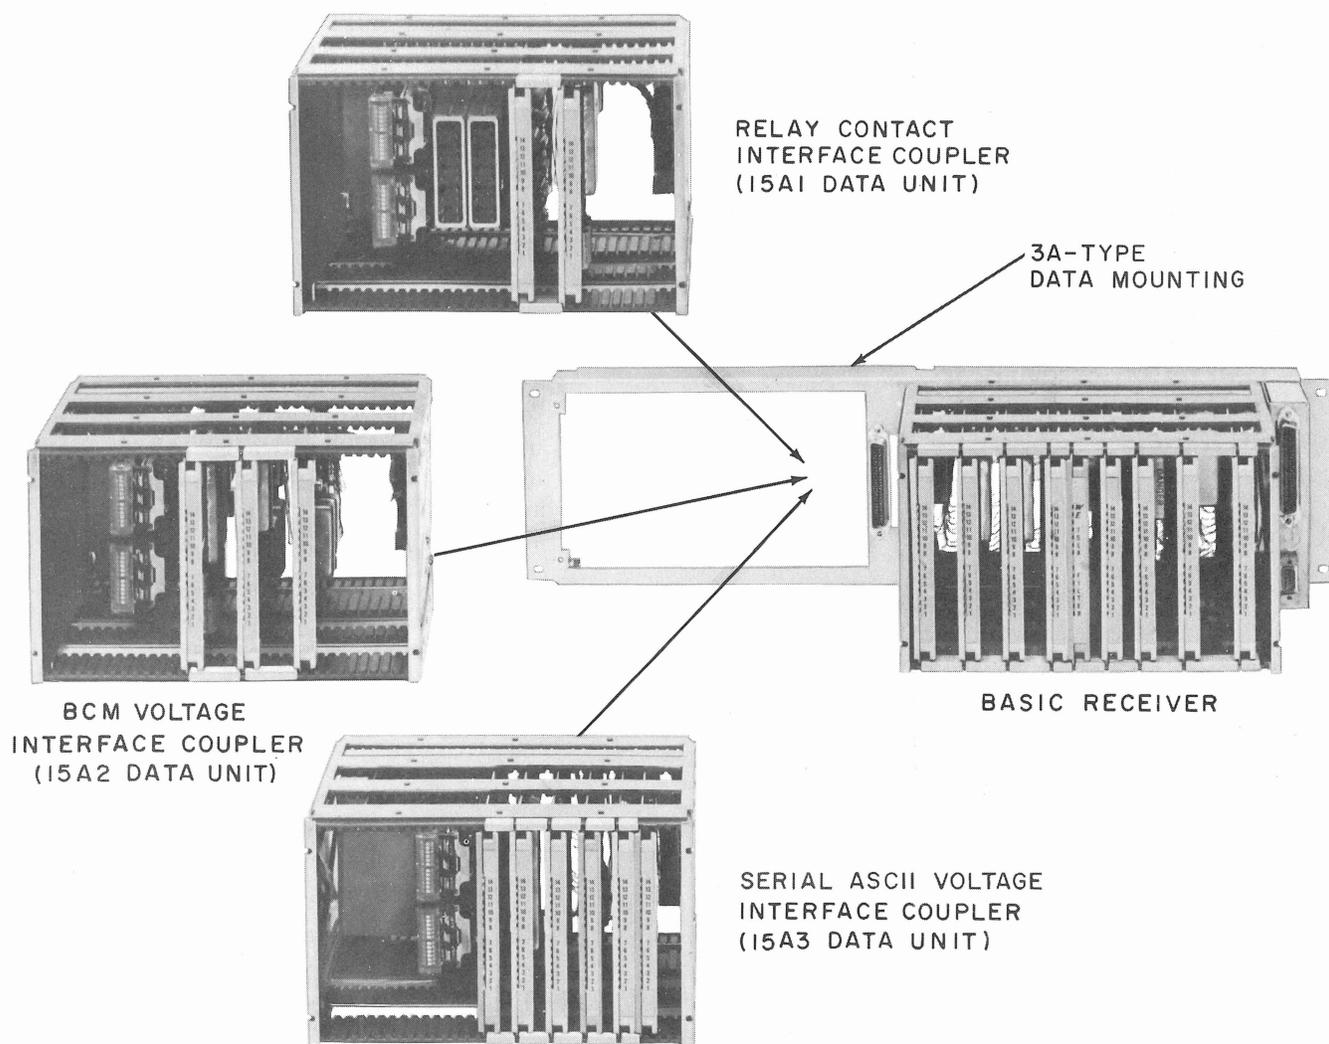

Fig. 1—Data Set 403D-Type Showing the Three Related Interface Units
**1.03** Data Set 403D-type (Fig. 1) is made of two basic items: a basic receiver and one of three types of interface coupler units (Data Units 15A1, 15A2, or 15A3). These interchangeable interface couplers, which plug into the frame containing the basic receiver, make the Data Set 403D-type adaptable to many different business machines. Nine printed wiring board circuit packs are used in the basic receiver and the data units. Combinations of the basic receiver and interface coupler units, combined with circuit pack substitutions in the receiver portion, provide six codes of Data Set 403D-type (Table A).